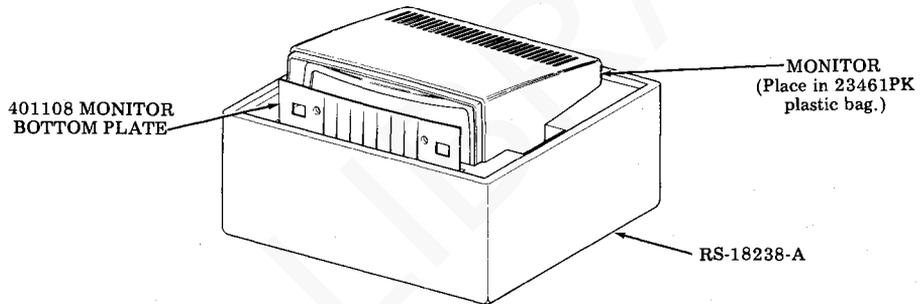
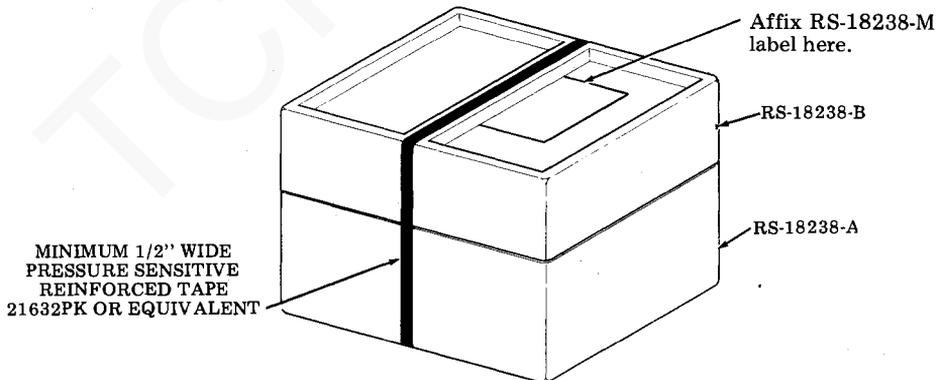

Fig. 6
Fig. 7
- Step 3. Position monitor and bottom plate in position shown in Fig. 6. Position cover and secure with a band of pressure sensitive reinforced tape, as illustrated in Fig. 7.